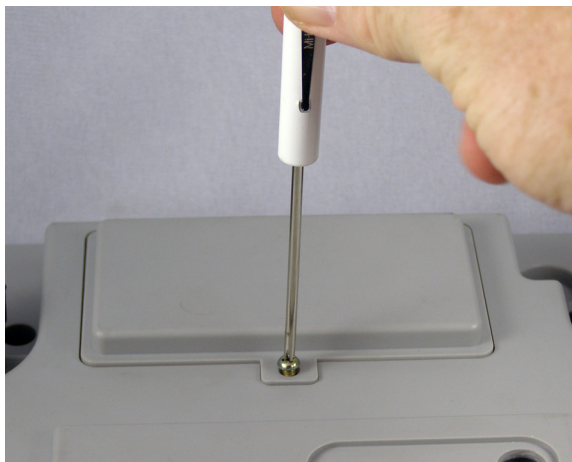

Figure 2.1 Removing the Battery Compartment Lid Screw
1. Remove the screw in the battery compartment lid on the bottom of the scale. See Figure 2.1.